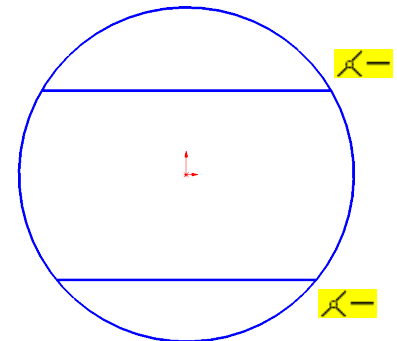

Fig. 3
Step 5. Click **Line**  (L) on the Sketch toolbar.
Step 6. Sketch **two horizontal lines across circle** , **Fig. 3**. Double click to terminate chain.